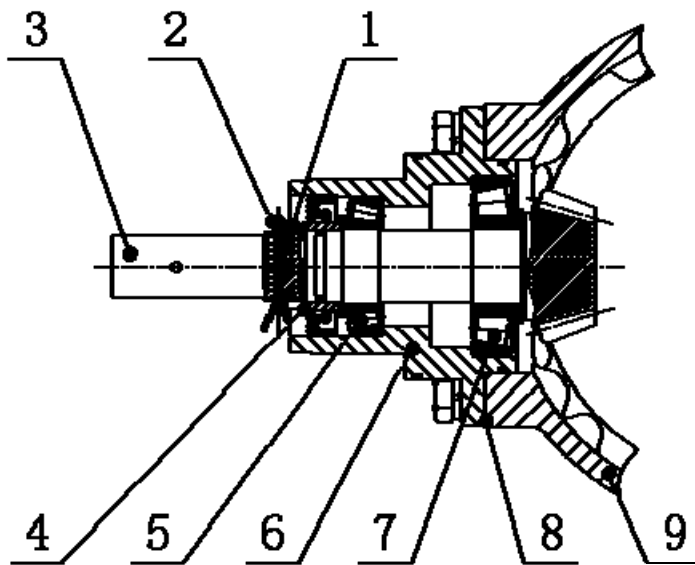
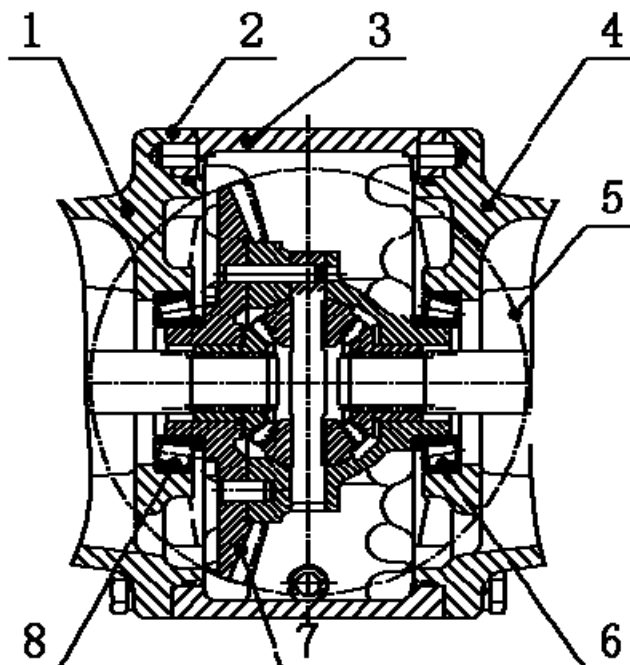

Fig.6-5
Fig.6-6
To insure the reliability of the front axle bevel transmission, assembled pinion and crown gears(see fig 6-5 and 6-6) should be a pair of match. And they should get to the proper mashing zone. During the usage, the gears must be adjusted when the bearings and gears abraded .
6.5.1 Adjustment of the pre-stress of the spiral bevel pinion bearings (See Fig. 6-5)
6.5.2 Adjustment of the pre-stress of Differential assemble bearings (See fig.6-6)
Make sure the clearance of the pinion and crown gears at the state-range. Only when the clearance is large enough, it should be adjusted. When adjusting, bring down the back seat, put a lead piece between the teeth of pinion and crown gears. The lead piece will be pushed to transform. Then measure the thickness of lead piece near the big end. The proper clearance changes from 0.16 to 0.32mm. Measure it for 3 times and at 3 point which equally at the circle. The difference between them should be less than 0.1mm. If it failed to reach the request, adjust the thickness of Shims for bearing seat 8 in fig.6-5 or Shims for main drive case 2 in fig. 6-6. At last, put all of the components on.If the clearance is too large,you can decrease the thicknessof Shims for bearing seat 8 or Shims for main drive case 2, but it's important to note that you must move the Adjusting shim from one side to the opposite side, then the crown gear will be shifted towards the side where the Adjusting shim is added but the pre-stress of bearings will remain unchanged.